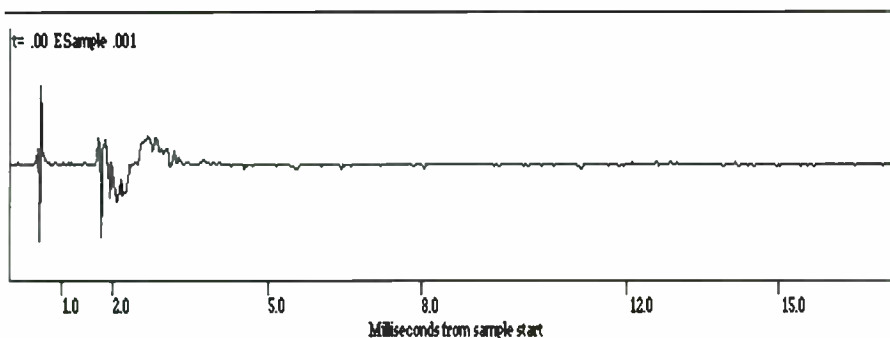

FIGURE 3: The result of time averaging pulses from the microphone. Note the crosstalk "blip" at around T=0.6ms (see text).
*Figure 3* shows the AIRR results for a signal arriving at the microphone input. Just before the pulse, an excursion from the quiescent level of the signal can be observed. This is due to crosstalk between the ADC and DAC signal paths on the sound card: it is the pickup of the outgoing pulse generated by the ADC, and is an ideal candidate for cutting with the cut lines. In this case you might specify a lower cut position at 1.0ms.